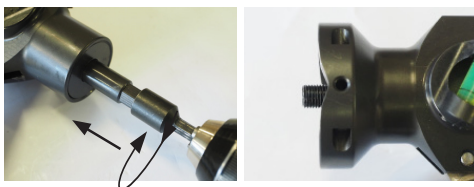

Fig. 3.1 Use your drill to fully extend the cutter end (above right) BEFORE cutter installation.
3.1 Extend the Drill Jig's cutter end / thread using your drill. Ensure to fully extend the cutter end (Fig. 3.1).